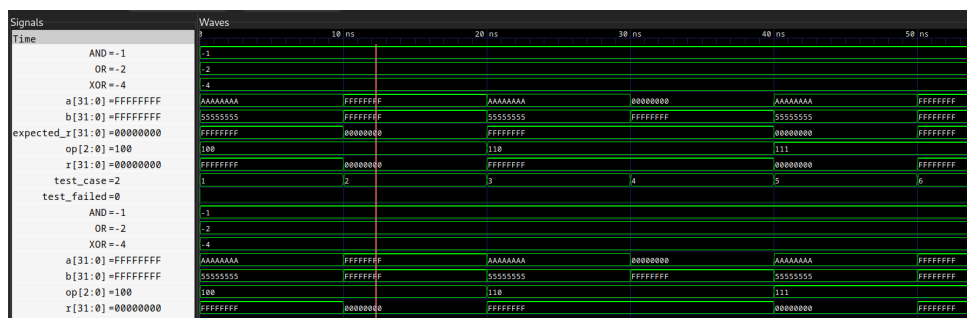

Figure 5: GTKWave interface showing Logic Unit signals
- Zoom out to the desired time frame and observe the signals. You should have a similar output to the one shown in Figure 5 (Note: The image shows a completed testbench, your output will differ).